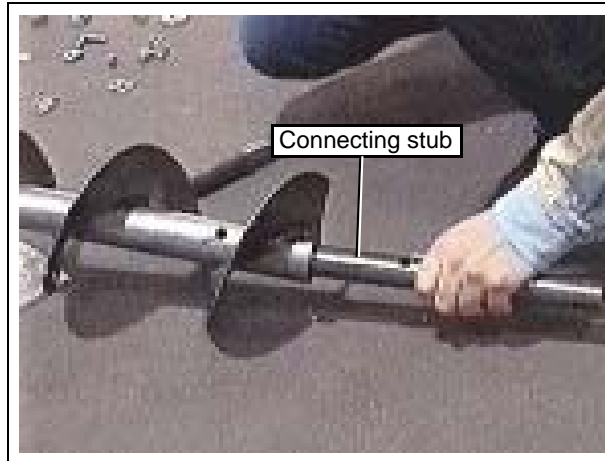

Figure 3AA
1. Insert the connecting stub into the flighting. Secure it with bolts (see Chart below), lock washers and nuts. (See Figure 3AA.)